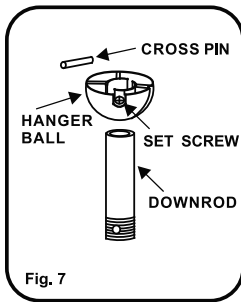

Fig. 7
Step 3. Remove hanger ball from downrod assembly by loosening the set screw , removing the cross pin, and sliding ball off rod.(Fig 7)